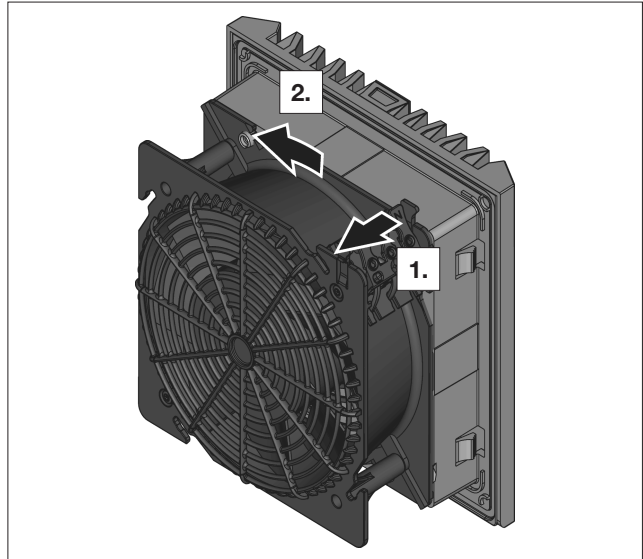

Fig. 7: Release the bayonet connection
- To unlock the bayonet connection, pull the bracket (see fig. 7) of the bayonet catch at the rear of the fan. This is located on the corner of the connection terminal.